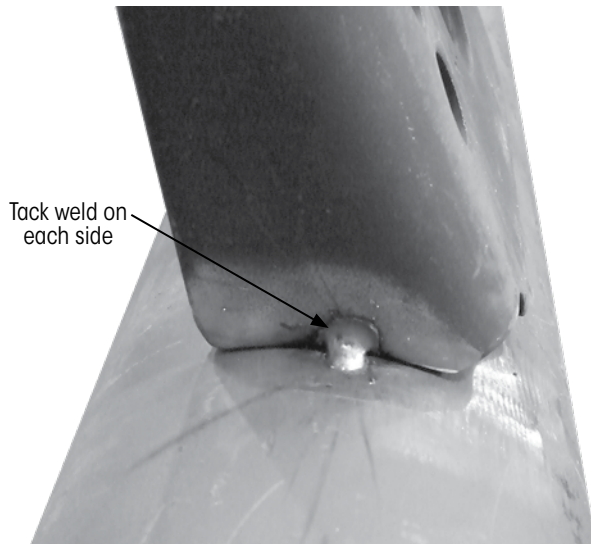

Figure 10: Tack weld brake chamber bracket to axle tube
6. **Tack weld** the brake chamber bracket in place using a $\frac{1}{4}$ inch (6 mm) tack weld on both sides of the brake chamber bracket (Figure 10). Tacks should be near the center of the bracket.